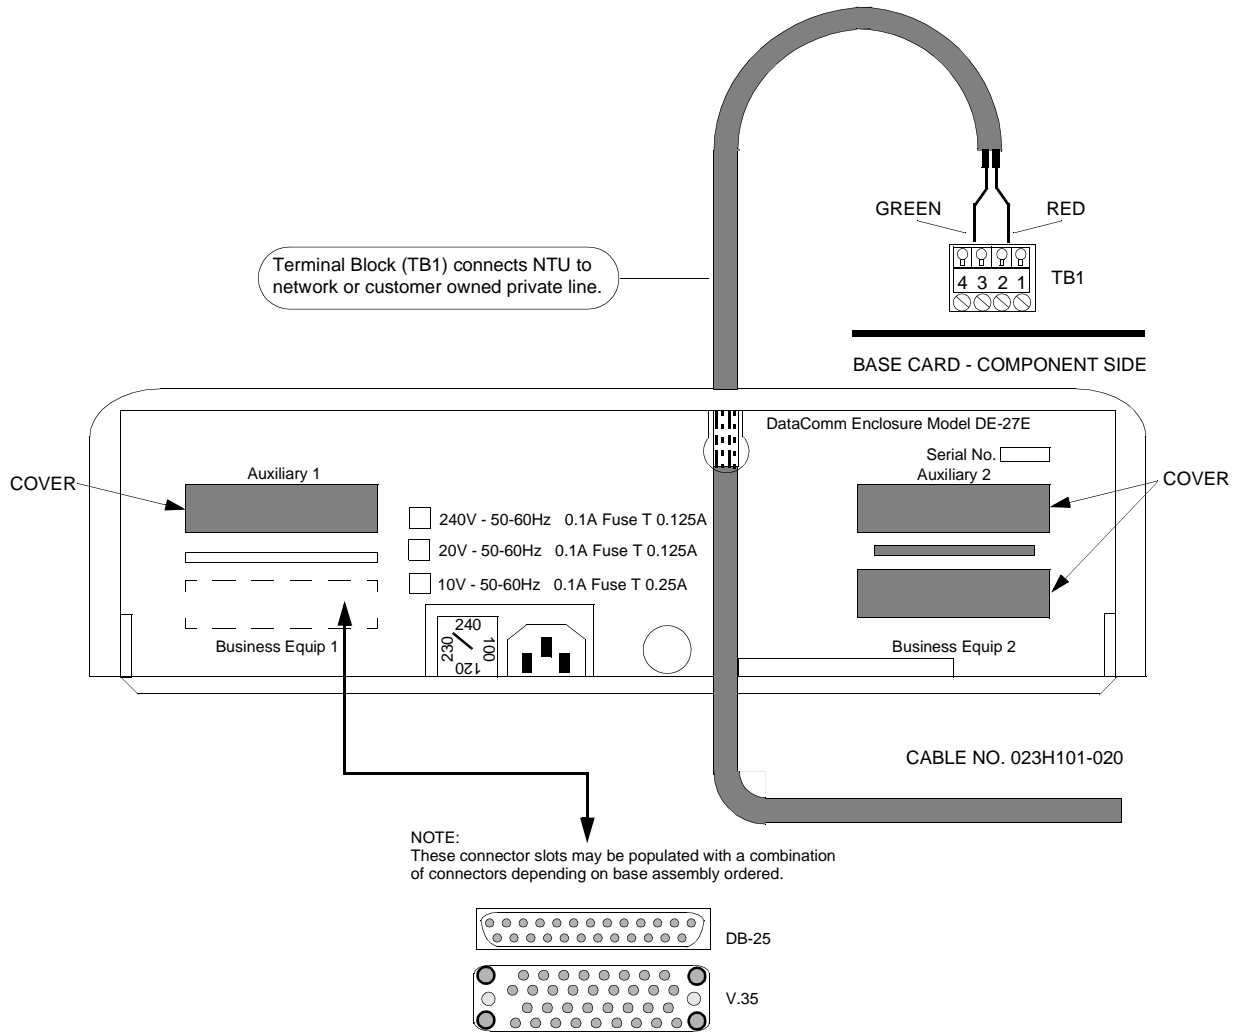

Figure 2-3 DE-27E Standalone Enclosure Rear Panel
You can make business equipment connections to the standalone using a variety of connectors depending on the base assembly that you ordered. (See *Figures 2-3* and *2-4*). *Figure 2-5* shows the connections to the rackmount shelf.
2. When you use the TB1 terminal connections, insert the two-wire private line through the access hole in the rear panel of the enclosure and then connect it to the two center terminals (2 and 3) on the base card as shown in *Figures 2-3 and 2-4*.